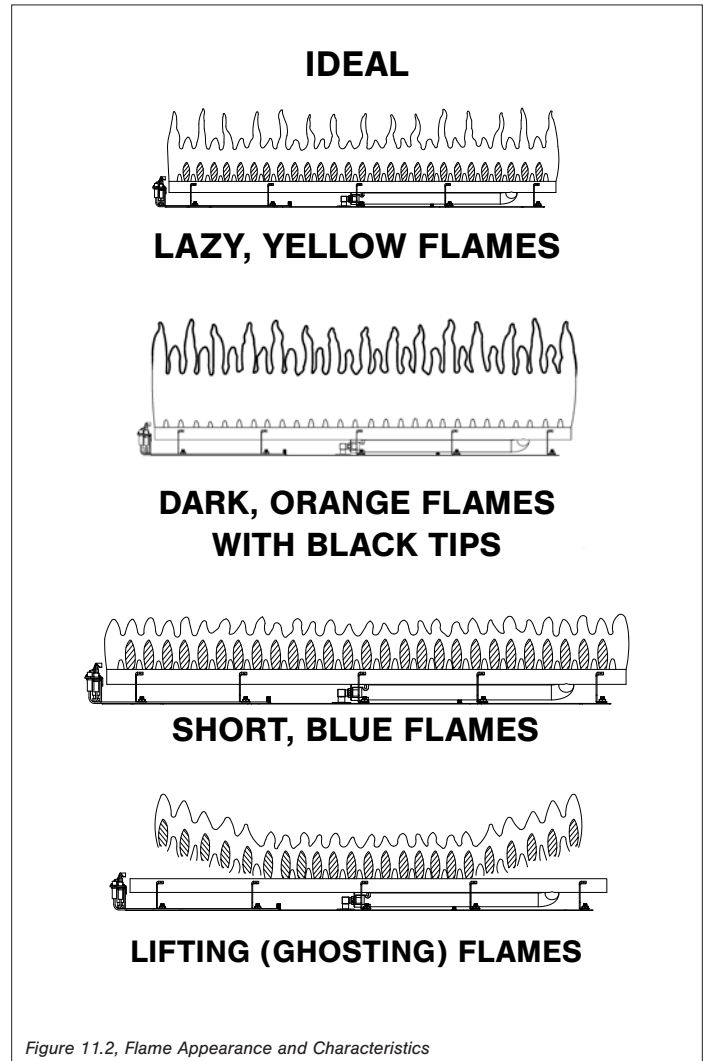

Figure 11.2, Flame Appearance and Characteristics
- Visually check pilot light and burner flame pattern when in operation. Flames should be steady, not lifting or floating. Refer to Section Figure 11.2, Flame Appearance and Characteristics on page 37 for more information.